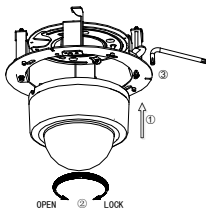

Figure 2-52 Fix the Camera
- Dimensions of base mounted PTZ bullet camera is shown in Figure 2-52.